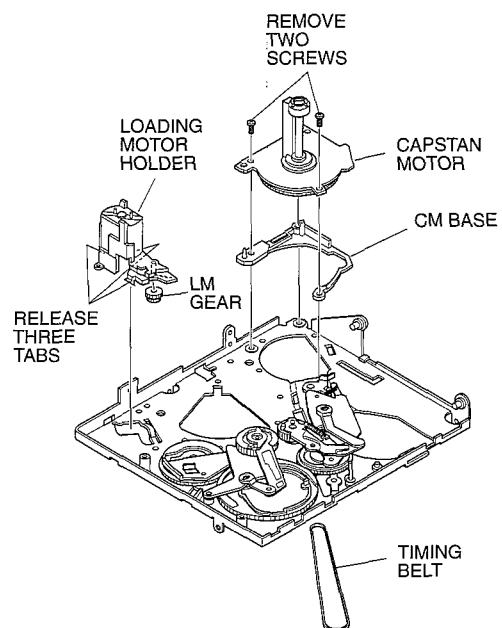

Fig.2-12
- (1) Release 3 tabs. (See Fig. 2-12)
- (1) Remove 2 screws. (See Fig. 2-12)
- (2) Remove the timing belt